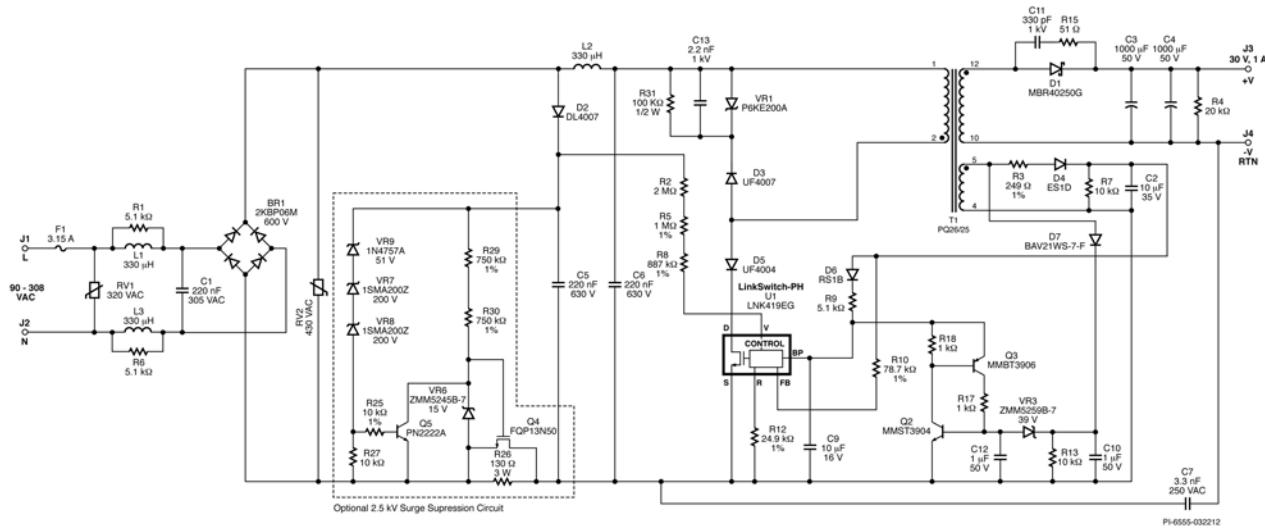
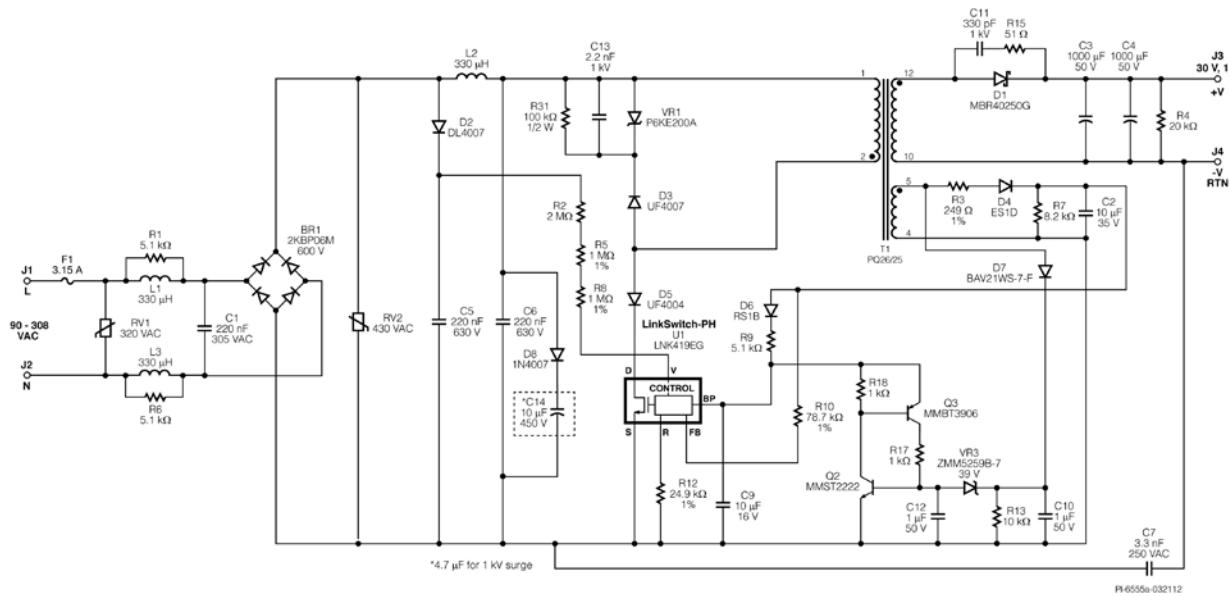

Figure 3 – Schematic (No Aluminum Input Capacitor).
Figure 4 – Schematic (with 10 μ F Aluminum Capacitor).
Two versions of the design are shown below. They differ in how the 2.5 kV surge withstand is achieved. To avoid the need for electrolytic capacitors on the primary side, the first design uses a switched series impedance to limit the maximum DC bus voltage. This is the circuit block within the dotted box in Figure 3. For differential surge levels of 500 V or less this block may be omitted.
5.1 No Primary Side Aluminum Capacitor (Figure 3)
The same layout was used for the schematic shown in Figure 4. Here the additional components (within highlighted box in Figure 3) were removed. Resistor R26 was replaced with a jumper and D8 and C14 soldered across C6.
6.6 High Surge Protection Circuit without Aluminum Capacitor (Figure 3)
6.7 High Surge Protection Circuit with Aluminum Capacitor (Figure 4)